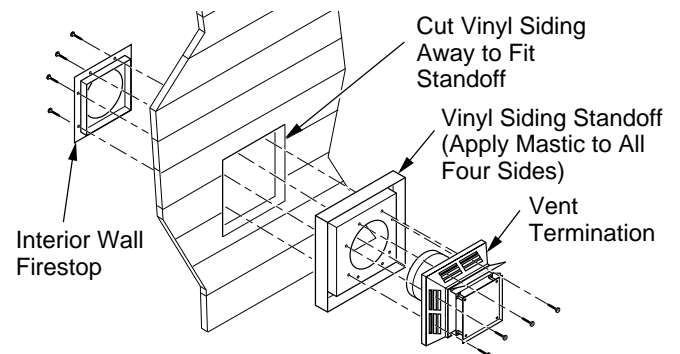

Figure 27 - Installing Vinyl Siding Standoff
- If installing horizontal vent termination cap on an exterior wall with siding, you must use a vinyl siding standoff (see Figure 27, page 14).
- Use of a vinyl siding standoff is required when vinyl siding, cedar shake, or other painted wood surfaces could melt, peel, or discolor from trapped or wind driven flue exhaust (excessive heat) near vent termination. The vinyl siding standoff replaces the outer firestop between the vent termination and the exterior wall to protect these exterior wall treatments. Bolt the vent cap to the standoff. Apply non-hardening mastic around outside edge of the standoff. Position standoff within the 10" square opening on the exterior wall. Use wood screws provided to attach the standoff. See Figure 27.